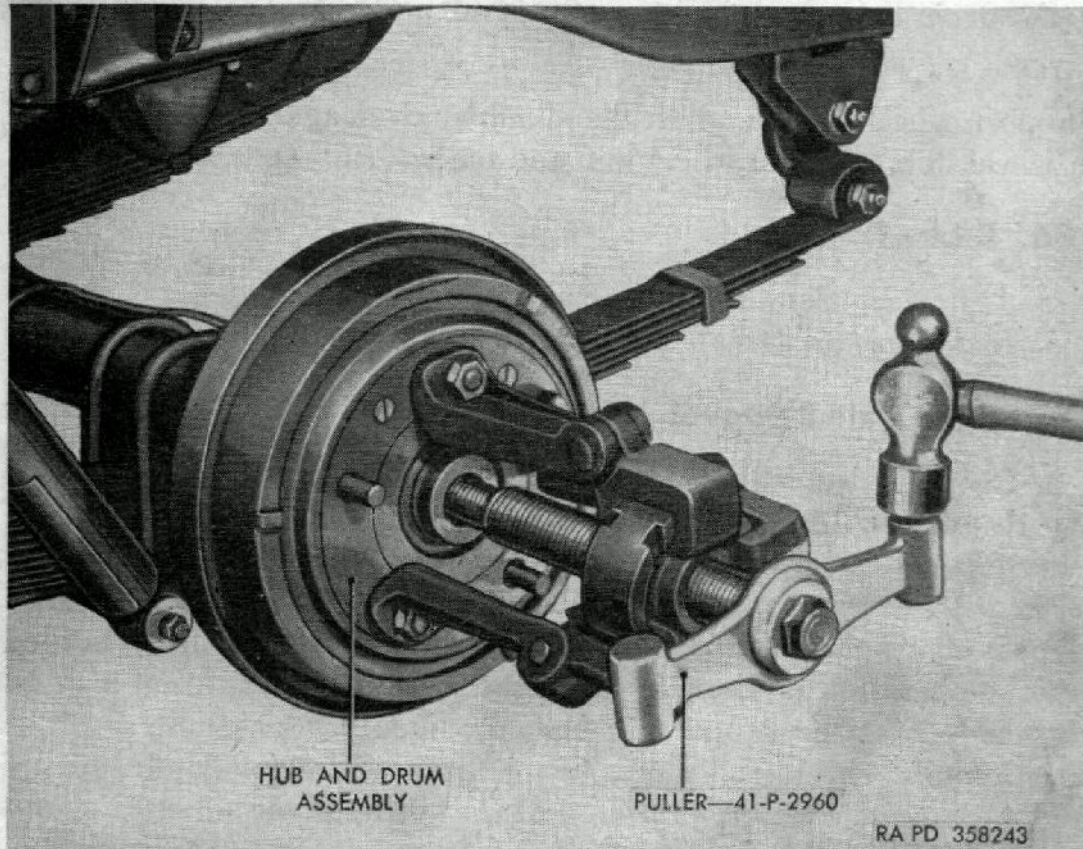

Figure 108. Removing hub and drum assembly.
- (1) Place a jack under the differential housing and move gear axle until tire clears floor. Remove five stud nuts and remove wheel.
- (2) Pry off hub cap. Remove cotter pin and unscrew axle shaft nut (T, fig. 107) and flat washer. Using puller 41-P-2960, remove the rear hub and drum assembly (fig. 108). Remove axle shaft key from axle shaft.